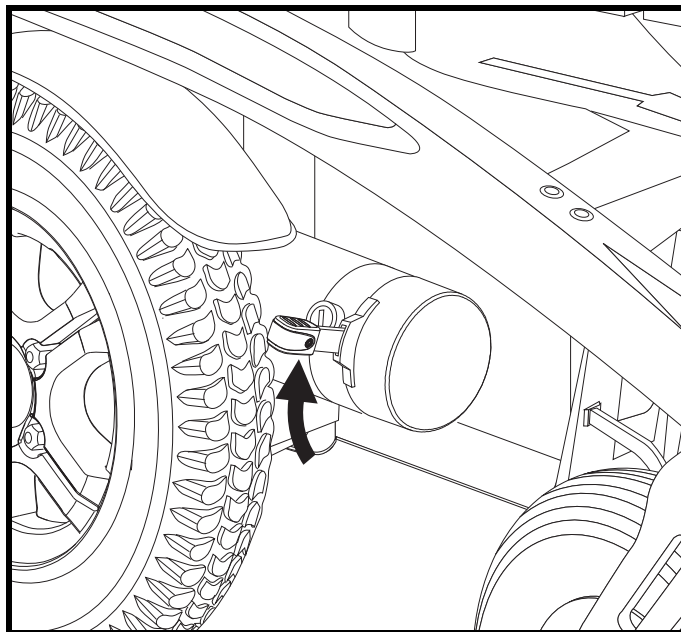

Figure 8. Drive Mode (Drive Engaged)
2. Pull up both manual freewheel levers for drive mode (drive motors engaged). See figure 8.